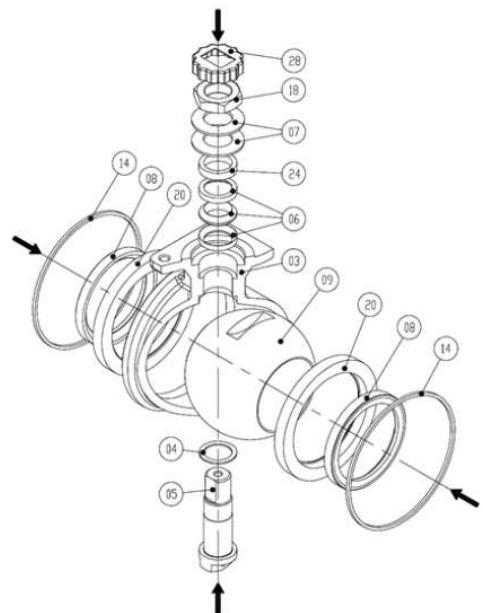

Fig 8
#### Packing (06) and steam seal (04) replacement (Fig 5, Fig 7 & Fig 8)
1. Unscrew one screw (13) and take it out with the spacer (12) and the nut (17) to allow valve body to be taken out
3. Operate 90° to allow the ball (09) to be in the close position
4. Push the ball (09) outside of the body.